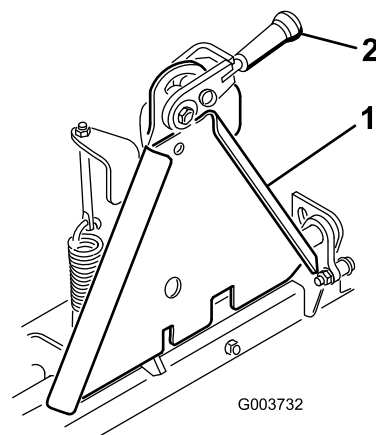

Figure 1
Note: Ensure that the locking lever (Figure 1) is pivoted to the left (unlocked position) as viewed from the front of the machine.
5. Pivot the locking lever to the right to lock the adapters together (Figure 1).